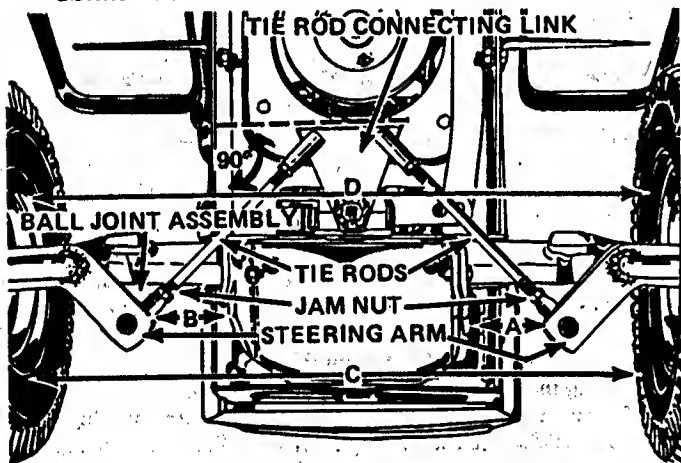

Figure 34
1. Turn steering wheel until the rear edge of the tie rod connecting link is perpendicular (90 degrees) to the tractor frame as shown in Figure 34.
1. Loosen jam nuts on both ends of tie rods, Figure 34.
2. Rotate tie rods until distances A and B, Figure 34, are equal and distance C is 1/8" to 1/16" less than D.